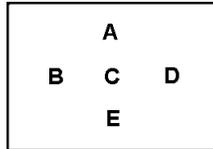

Figure 8
- 4.2 Place test weights equal to one-half scale capacity sequentially on the platter at the points (A,B,C,D and E) indicated in Figure 8. Note that points A, B, D and E are one-half the distance from the center of the platter to the edge of the platter.